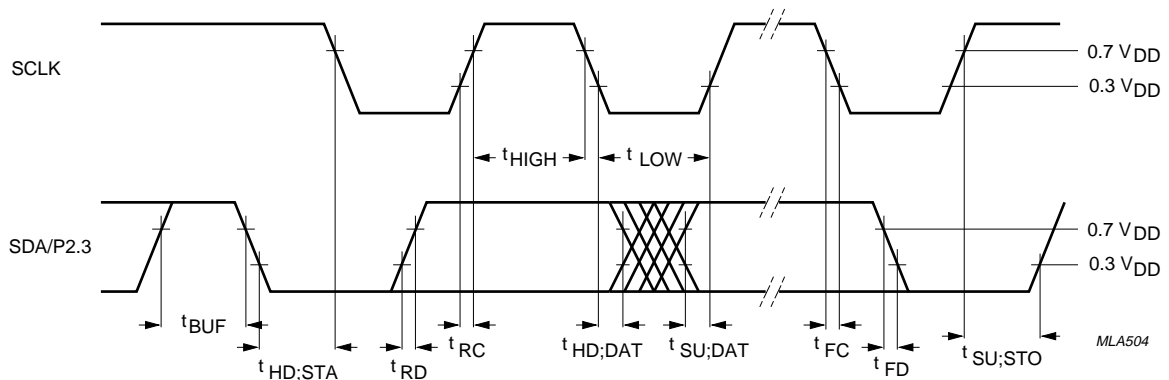

Fig.14 Slave SCLK and receiver SDA/P2.3 timing (SCLK and SDA/P2.3 are inputs).
**Table 4** I2C-bus timing (see Figs 14 and 15)